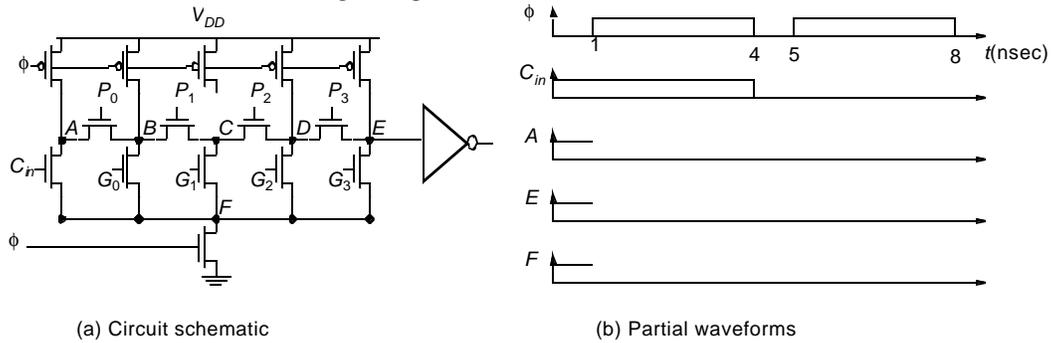

Figure 0.5 Alternative dynamic Manchester carry-chain adder.
9. [M, None, 11.3] Consider replacing all of the NMOS evaluate transistors in a dynamic Manchester carry chain with a single common pull-down as shown in Figure 0.5.a. Assume that each NMOS transistor has  $(W/L)_N = 0.5/0.25$  and each PMOS has  $(W/L)_P = 0.75/0.25$ . Further assume that parasitic capacitances can be modeled by a 10 fF capacitor on each of the